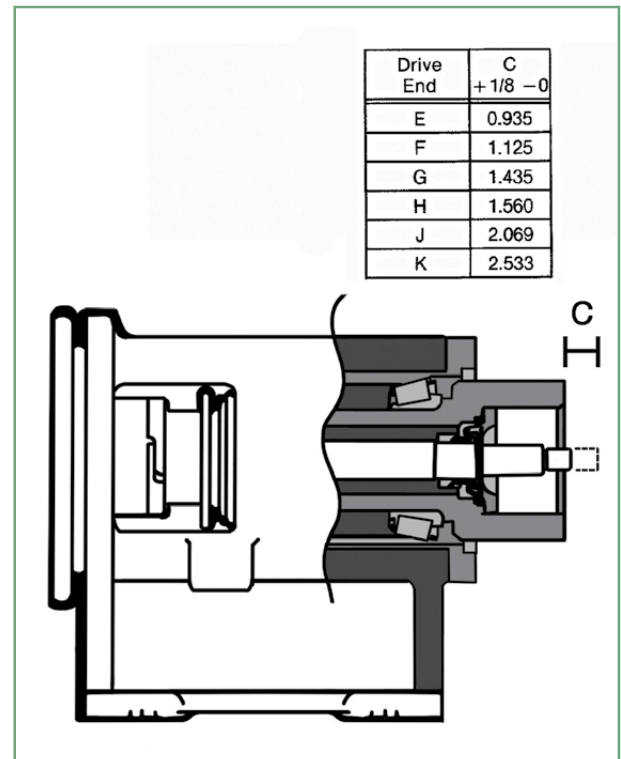

Figure 4-7. Gear Joint Installation
4. Check the dimension "C" between the end of the connecting rod and face of the drive shaft as shown in fig. 4-7. For proper assembly of the drive end gear joint, this dimension should be no less than that shown in column C, and should not exceed the amount in column C by more than 1/8 inch. Reposition rotor/stator assembly in or out of suction housing as required to achieve the proper dimension.
1. Check to see that connecting rod extends beyond face of drive shaft by amount specified in column C of fig. 4-7. (See Section 4-31, step 4.)
2. Fit the gear joint seal (13) on the connecting rod (38). Push the seal firmly in place on the connecting rod so that the neck on the seal seats in the recess in the seal retainer component of the connecting rod.
3. Apply a film of gear joint grease to the inside of the gear joint seal and to the flat face of the seal support (12). Slide the seal support (12) onto the connecting rod such that the flat face fits against the seal.
4. Apply a film of grease to the concave spherical surface of the secondary thrust plate (11), and slowly push the thrust plate into the drive shaft until it rests firmly against the seal.
5. Apply a film of grease to the gear ball (10) splines and spherical surfaces, and install gear ball on connecting rod, counter-bored end first (end without splines). Gear ball should slide freely on rod until it contacts shoulder on rod. Install connecting rod lock nut (9) and tighten against gear ball. While tightening lock nut, prevent connecting rod from turning by carefully holding with pipe wrench or vise grips through inspection ports in suction housing.
6. Apply liberal amount of grease to gear ball teeth and ring gear (8) teeth, and slide ring gear into the drive shaft assembly. Keyways in ring gear should be facing out, and one of the keyways should be aligned with drilled and tapped holes in outside diameter of drive shaft.
7. Place keys (7) in keyways of the ring gear. A small amount of grease may be used to hold the keys in place. The flat face of the ring gear should be approximately flush with the face of the drive shaft.
8. Place primary thrust plate (6) in drive shaft head (4), aligning slot in outside diameter of thrust plate with pin in drive shaft head. When the thrust plate is properly seated, the face of the thrust plate should be flush with the face of the drive shaft head.
10. Place O-ring (5) in the groove on drive shaft head (4). Align the keyways in the drive shaft head with the keys in the ring gear, and insert the head into the drive shaft assembly.
11. Thread the six socket head screws (E) through the drive shaft head into the drive shaft. Tighten them evenly until face of drive shaft head is tight against face of drive shaft. Excess grease in the gear joint assembly will be purged from the holes in the drive shaft and drive shaft head.